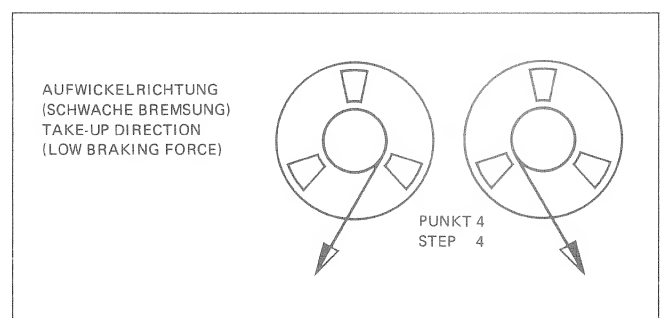

Fig.3.4
4. **Braking force adjustment in take-up direction (light braking)** -> Fig.3.4